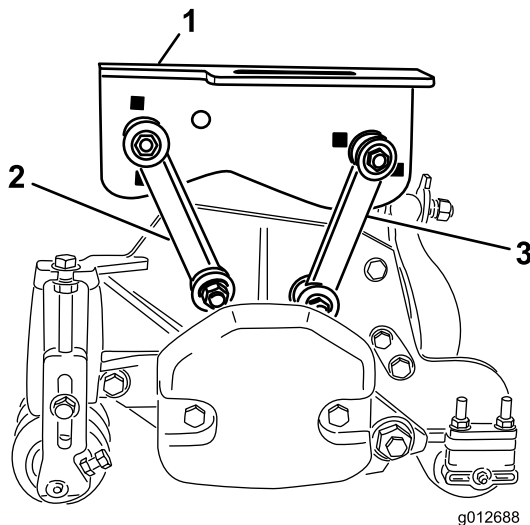

Figure 17
- Secure the front mounting links to the middle carrier frame holes with a bolt (3/8 x 2-1/4 inch), 2 flat washers, and a locknut, as shown in Figure 17. Position a washer on each side of the link when mounting. Torque the fasteners to 42 N-m (31 ft-lb).
- Secure the rear mounting links to the middle carrier frame holes with a bolt (3/8 x 2-1/4 inch), 2 flat washers, and a locknut, as shown in Figure 17. Position a washer on each side of the link when mounting. Torque the fasteners to 42 N-m (31 ft-lb).